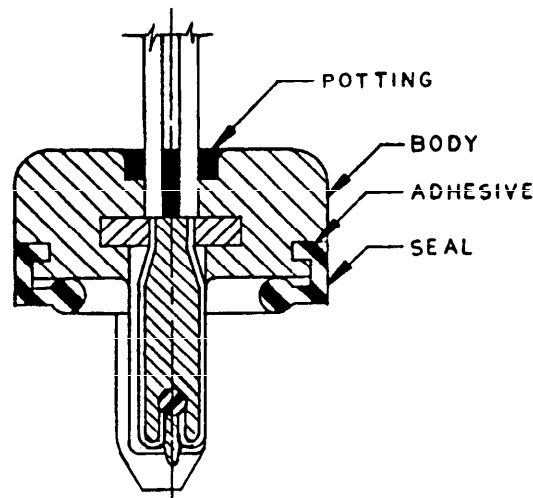

FIGURE 6. Potting and seal installation.
- G. Allow 4 hours to cool, apply potting compound around and between the cables at the rear of the plug. See Figure 6 (Potting and Seal Installation).